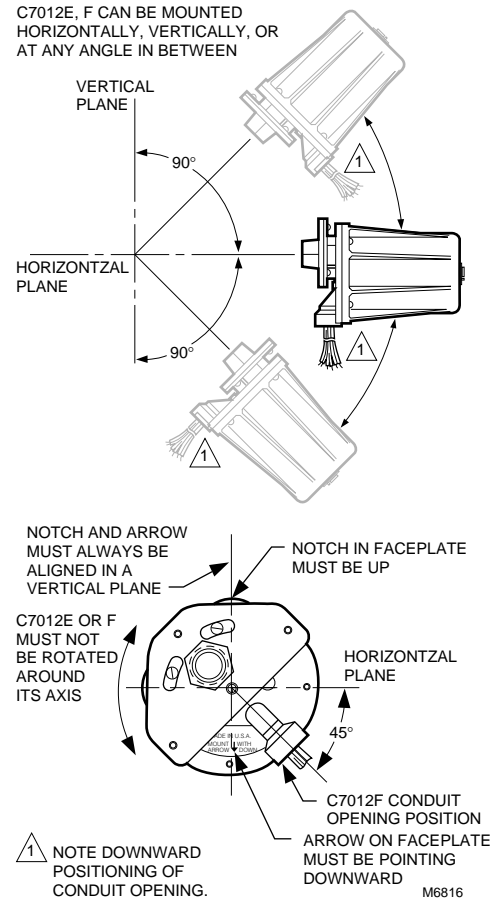

Fig. 6. C7012E,F mounting positions.
The C7012E,F Self-Checking Flame Detectors incorporate an oscillating shutter mechanism and, therefore, require special consideration for mounting positions other than vertically sighting downward or upward. The C7012E has notch and arrow indicators (see Fig. 6) on the faceplate to facilitate mounting. The notch and arrow must be vertically aligned with the notch in the up position and the arrow pointing downward (see Fig. 6). The C7012F must be mounted with the conduit opening located approximately 45 degrees below the horizontal (see Fig. 6).
*The C7012F housing **must** be mounted with the conduit opening approximately 45° **below** horizontal (see Fig. 6).*